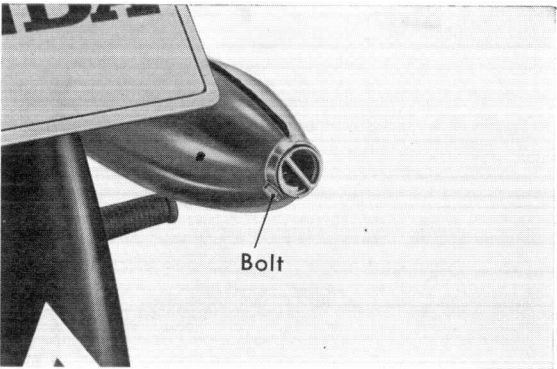

Figure 6-39. Removing diffuser pipe
- a. Remove the diffuser pipe locking bolt and pull out the diffuser pipe (Fig. 6-39)